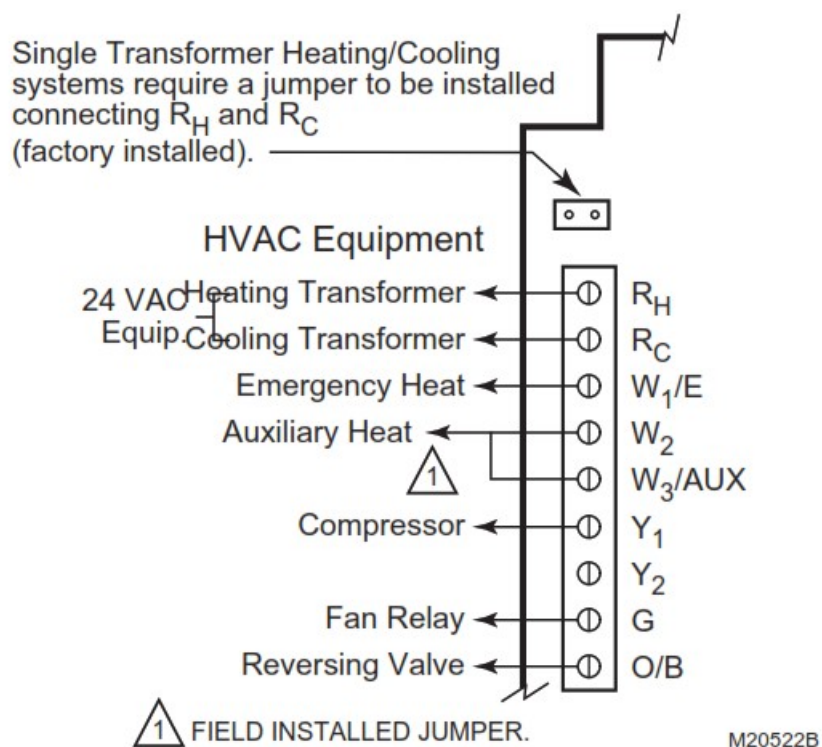

Fig. 18. Wiring single-stage heat pump with separate auxiliary and emergency heat.
- Connect the emergency heat to W1/E. See Fig. 18.